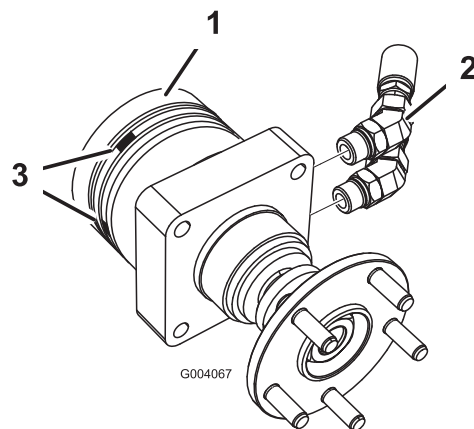

Figure 2
4. Install two 45 degree hydraulic fittings into each wheel motor assembly (Figure 2). Position the fittings so they point straight to the rear.